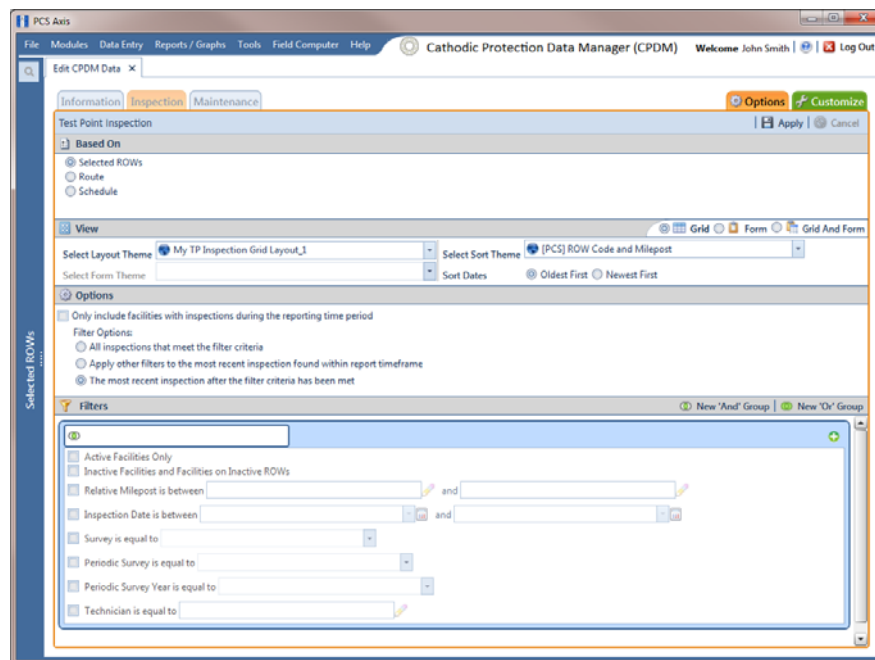

Figure 7-52. Options
- 4 Click the **Options** tab  to open the options page. In the *View* group box, click the option labeled  **Form** or  **Grid And Form** and then click **Apply** (Figure 7-52).